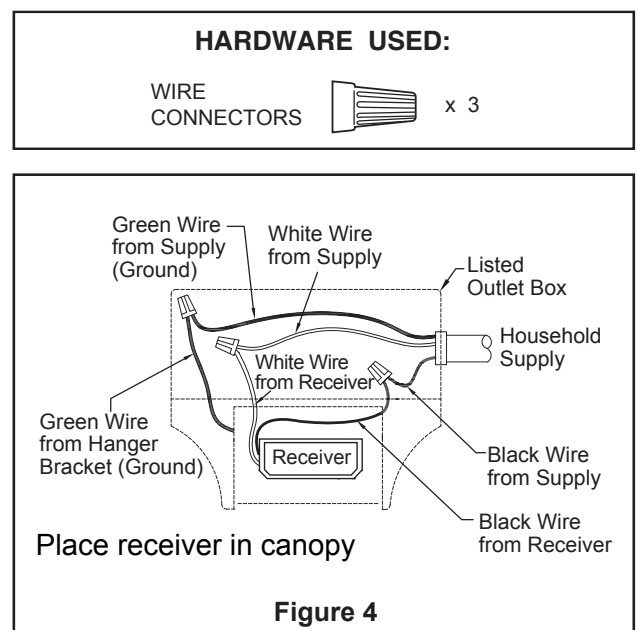

Figure 4
2. Securely attach the hanger bracket to the outlet box using the outlet box screws and washers supplied with the outlet box. (Figure 4)
4. After connections have been made, the wires should be spread apart with the grounded conductor and the equipment-grounding conductor on one side of the outlet box and the ungrounded conductor on the other side of outlet box, then turn leads upward and carefully push leads into the outlet box, with the white and green leads to one side of the box and the black leads to the other side. (Figure 4)